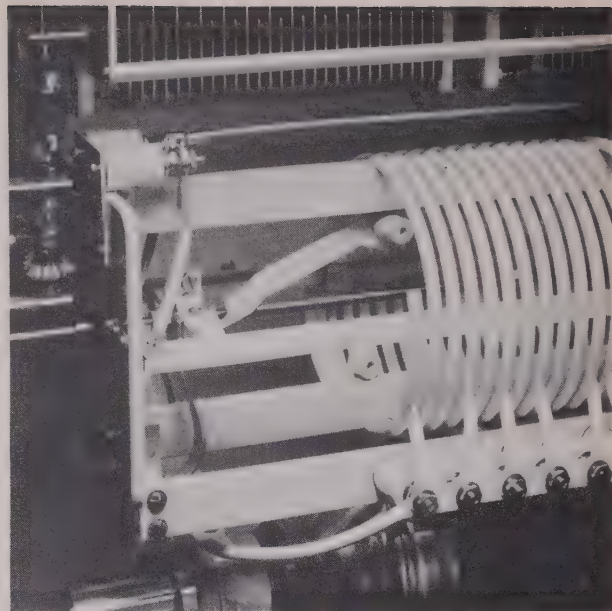

Figure 32. Radio Transmitter Model 96D, antenna coil L-11E, installation step 3
(5) Next, turn the coil clockwise and fit slotted portion of coil on ceramic frame. See fig 32.
(6) Then gently pry the coil lead up and over the threaded shaft. Fasten the lead to the lower terminal of the antenna